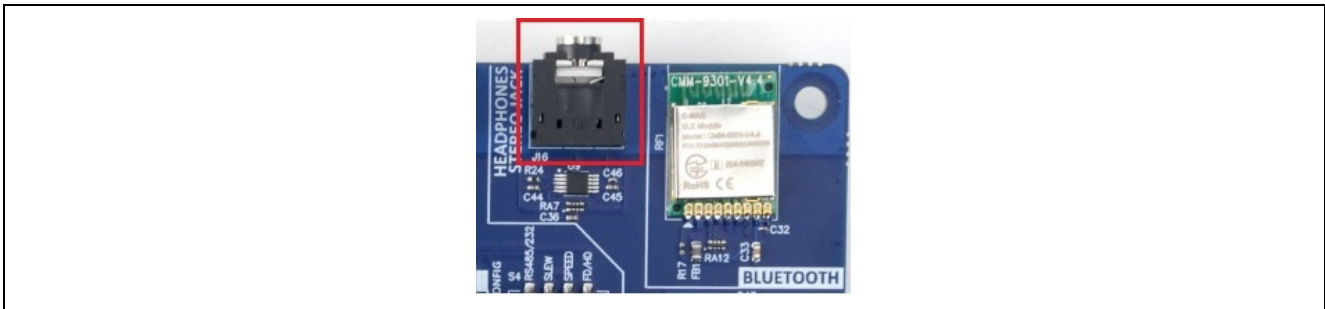

Figure 15. Connecting headphones or external speaker
3. Connect a set of earbuds or optionally a small powered speaker to the Headphones Stereo Jack Connector (J16) as shown in Figure 15.